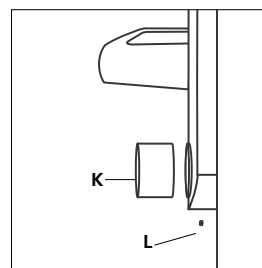

Figure 11
- 11) Install the medallion (K) on the outside housing. Position the medallion over the override cylinder and secure it with the retaining screw (L) at the bottom of the lock (see Figure 11).